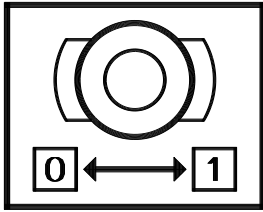
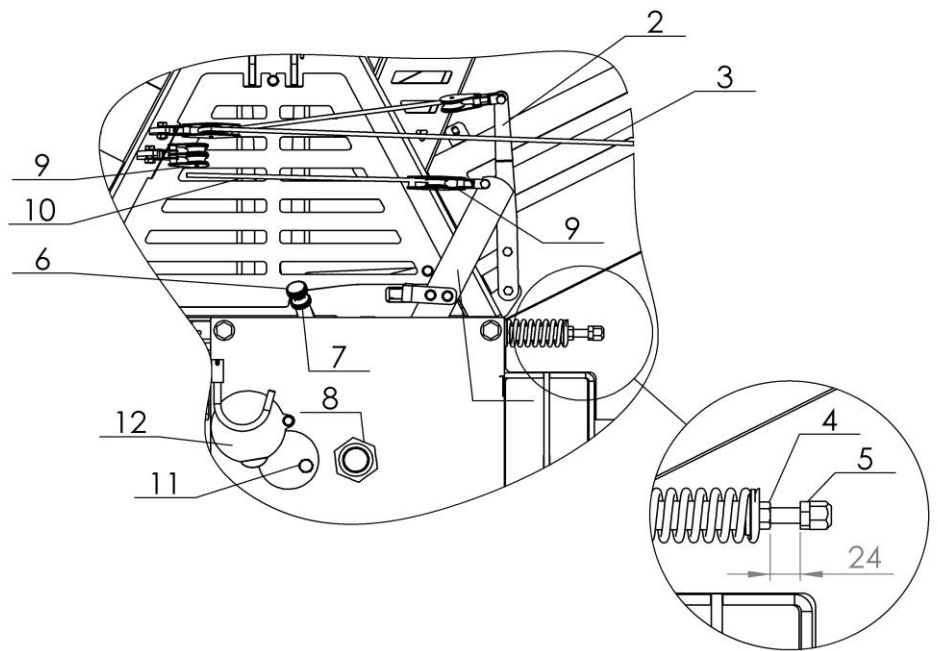
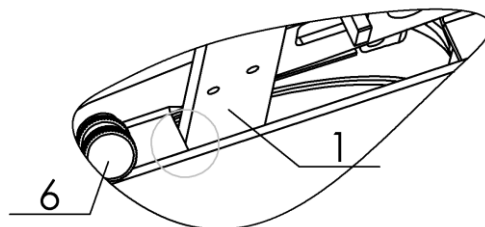

Figure 10
Figure 11
Figure 11a (lever rest)
Once the winch is properly connected to the tractor, you can start unreeling the wire rope. Pull the wooden lever on a red string (pos. 3, figure 11) and thus move lever 2 to the OFF position (figure 11). The brake is released and the wire rope can be unreeled. In case you have just installed the wire rope on the drum or you have noticed that the wire rope is not installed properly, you should unreel the entire wire rope and then reel it back tightly, as described in the beginning of this chapter.
Before you pull the black string (pos. 10, figure 11), check that the string is installed properly between the small pulleys (pos. 9, figure 11). The lever (pos. 1, figure 11) should return to its original OFF position as soon as you stop pulling the string (pos. 10, figure 11).
**Any interference with the activation mechanism which would prevent synchronous operation of clutch and brake is prohibited. It is also forbidden to pull the red brake string (pos. 3, figure 11) during the towing.**
Once you have installed the dynamometer (spring balance), pull the string with a force of 350 N (35 kg) and check the position of the lever (pos. 1, figure 11). This lever can be seen in figure 11a. Use the nut on the main shaft (pos. 8, figure 11) to regulate the position of the lever (pos. 1), until the lever is not touching the backrest.
In case you tightened the nut too hard (pos. 8, figure 11) and the lever moved away from the backrest, the necessary axial force on the friction surface of the clutch has been reduced too much.
Use a screw (pos. 6) and a lock nut (pos. 7, figure 11) to set the safety brake. First loosen the lock nut and regulate the screw (pos. 6). By turning the screw clockwise, you increase the brake force and by turning the screw anti-clockwise, you decrease the brake force. Then tighten the lock nut which prevents the screw from becoming loose. A proper setting means that the wire rope will not unreel from the drum automatically or too easily. This can lead to wire rope damage when you release the brake and start unreeling the wire rope. The safety brake is set properly when the wire rope can be unreeld without too much effort. In case you are pulling the rope up a slope, it is possible to additionally relieve the brake so that the pulling of the rope is easier. But after you finish the work, the safety brake must be returned to its original position (as describe above).
The brake is set via a nut (pos. 5, figure 11). The brake lever (pos. 2) must be in the ON position (figure 10). First use a wrench key to loosen the nut (pos. 4), then turn the nut with a wrench key (pos. 5) to the left to tighten the brake belt. Turn the nut to the right to loosen the brake belt. For optimal operation the gap between the nuts must be 24 mm. If the brake force is not sufficient, repeat the procedure and tighten the nut (pos. 5) to the left. At the end, tighten the nut (pos. 4) to an appropriate gap. If the set braking force is too high, the unreeling of the rope is more difficult. In such cases, turn the nut to the right.
First, remove the triangular protective net on the winch column. Then rotate the cover (pos. 12, figure 11) and rotate the drum in a position, which enables unscrewing of the bolt (pos. 11) on the drum. Insert the wire rope in the guide of the upper pulley and direct it through the upper pulley to the rope drum. Insert the rope in the groove and tighten the bolt (pos. 11, figure 11). Then start to wind according to the procedure, which applies to towing. Once the entire length of the wire rope is wound, unwind it again and wind it again strongly according to the procedure, which is described in the chapter "Wire rope unwinding" to prevent damage to the rope.